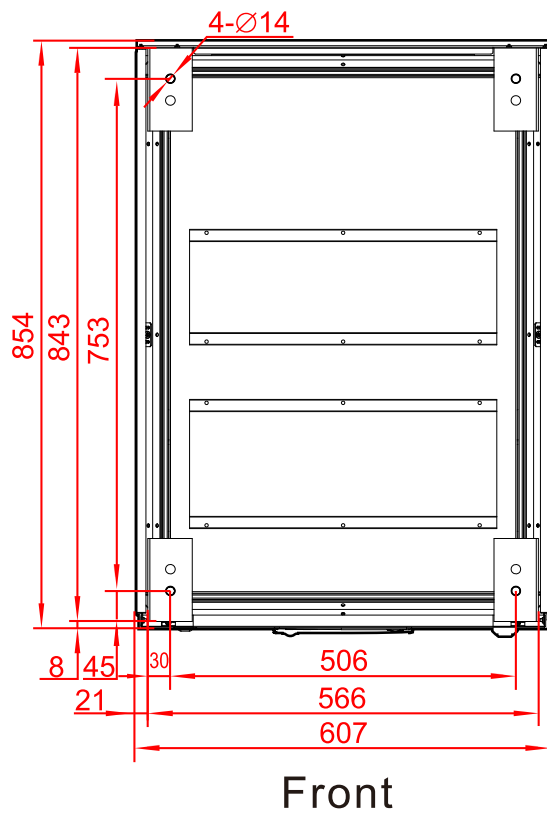

Figure3-8 The installation hole size of pedestal(unit: mm)
- Step 2 Drill four $\phi 14$ mm holes on the ground by impact drill according to the installation hole size of pedestal (as shown in Figure3-8).